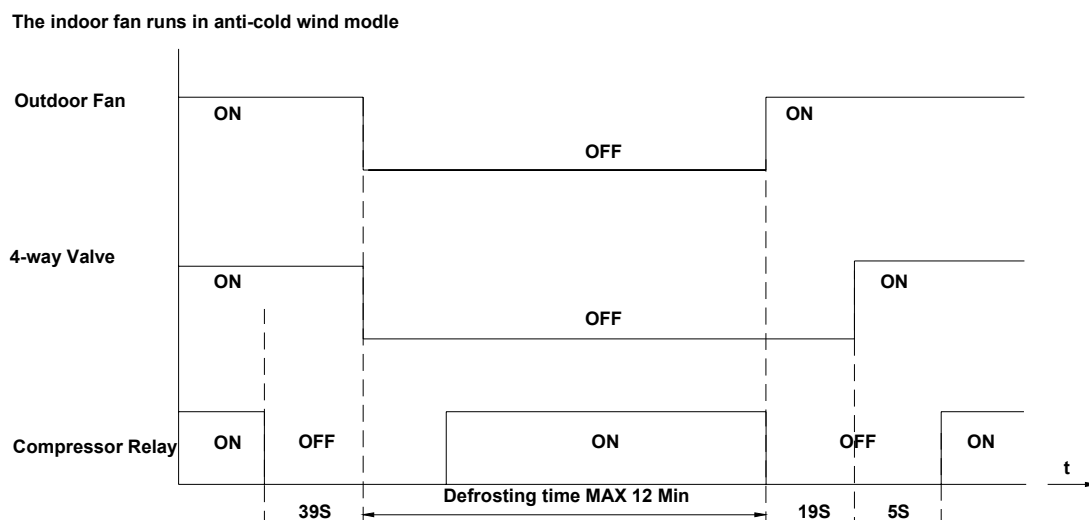

Figure 4 Defrosting process
(3) Defrosting process shown in Figure 4